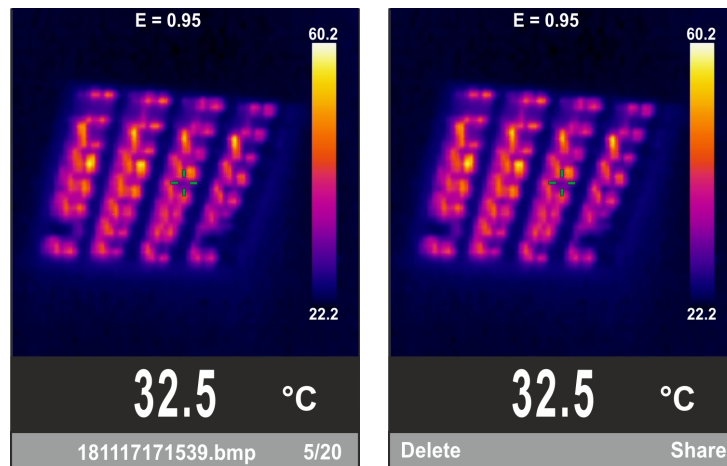

Fig. 7: Recalling, deleting and sharing the image on the display
14. Use the keys ▲ or ▼ and key **OK** to select option “Recall photo”. The screen in Fig.7 – left side (corresponding to the last saved image) is shown on the display:
16. To delete the image, press the trigger key **T** on the recalled image. The screen in Fig.7 – right side appears on the display. Press key **T** again to exit the function.